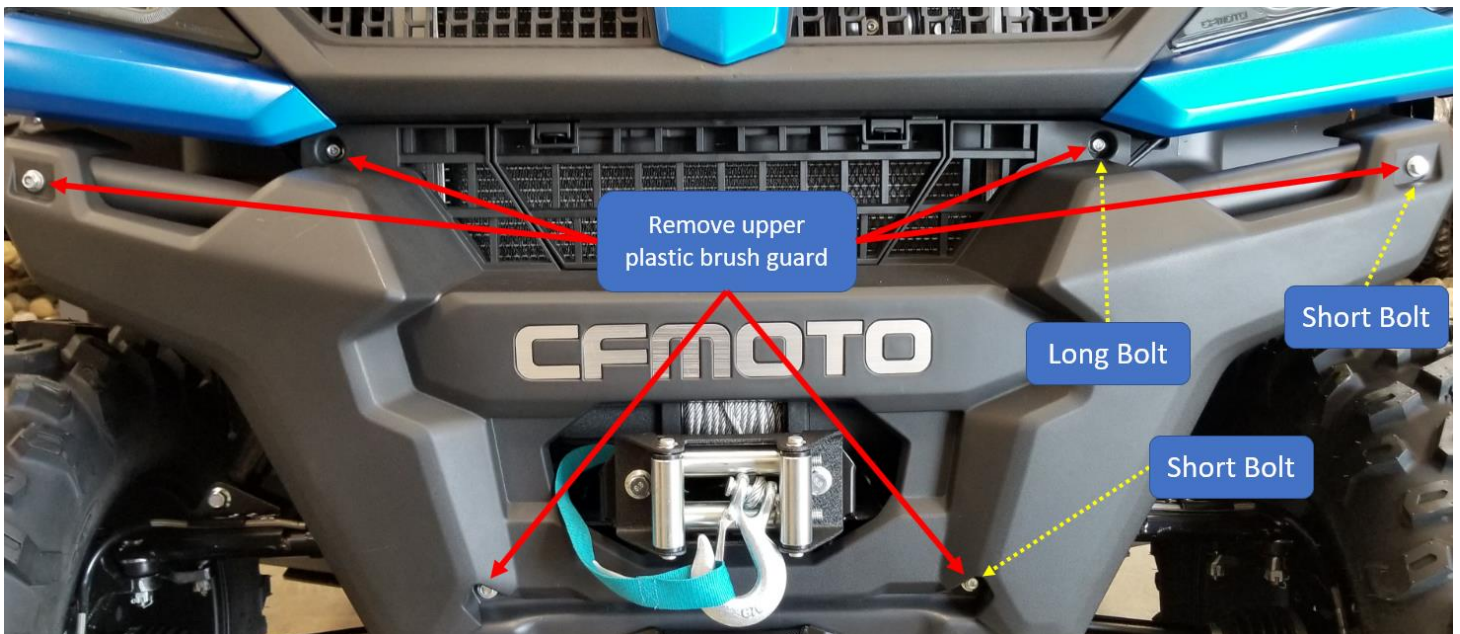

Figure 2
2. Remove the upper plastic brush guard as shown in **Figure 2**. Note the longer and shorter bolt locations.